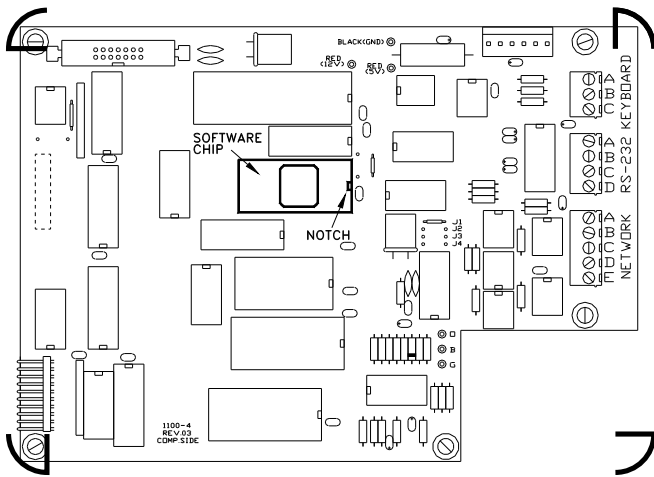

Figure A.1: System 1100 OIT Circuit Board
- ◆ Using Figure A.1, locate the software chip on the circuit board mounted to the System 1100 enclosure door and remove it.